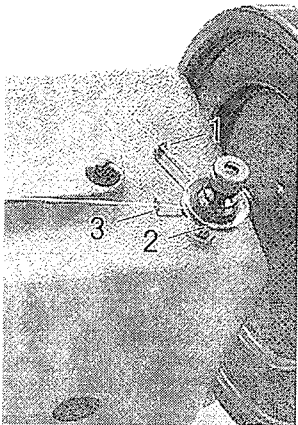

Fig.10
7. WINDING THE LOWER THREAD ON THE BOBBIN (Figs. 10 & 11)